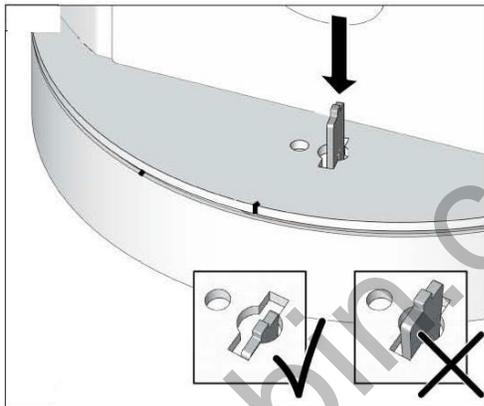

Figure 5: Insert First Rotation Locking Stopper
4. Rotate the stove body very slightly. Slide the Locking Stopper down through the hole on the deck of the control knob. Be sure the Stopper slides all the way into place over the matching groove (see fig. 5).
5. Rotate the control clockwise until the tangs release, and then lift the control out of its position (see fig. 5).